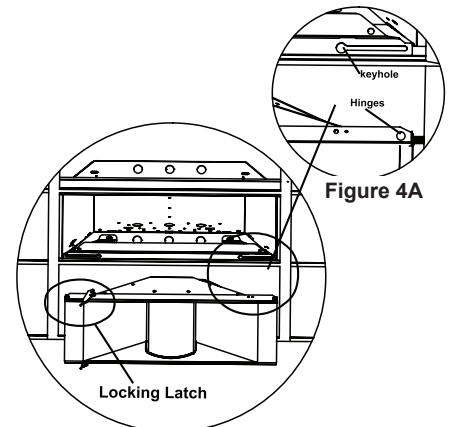

Figure 4
4. Place the hinges of the retrofit luminaire body into the keyholes of the end plates, slide the luminaire body horizontally to the end of the slots. (See Fig. 4, Fig. 4A)